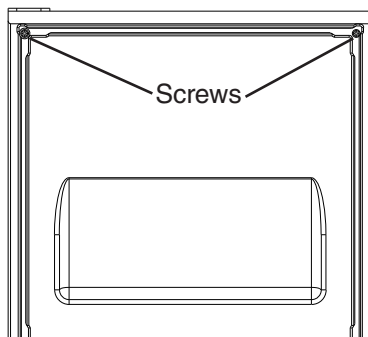

**Fig. 16**
- 7) Remove the bushings from hinge (C1) and hinge (C2) (the hinges attached to the door). See Fig. 16.